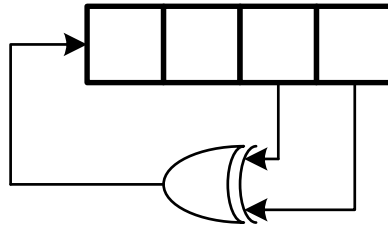

Figure 5. LFSR unit
- 1) Implement the LSFR unit as shown in Figure 5. Specifications are followings: